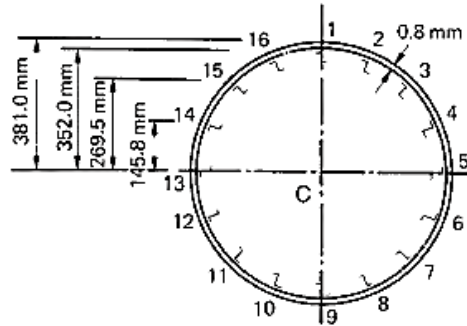

Figure 8
9. (a) The fuselage of a light passenger carrying aircraft has the circular cross-section shown in Figure 8. The cross-sectional area of each stringer is 100mm^2 and the vertical distances are to the mid-line of the section wall at the corresponding stringer position. The distance between two Booms is 149.6mm . If the fuselage is subjected to a bending moment of 200 kNm applied in the vertical plane of symmetry, at this section, calculate the direct stress distribution. [7M]